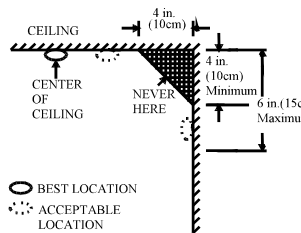

Figure 4: RECOMMENDED BEST AND ACCEPTABLE LOCATIONS TO MOUNT SMOKE
- Install smoke detectors as close to the center of the ceiling as possible. If this is not practical, put the detector on the ceiling, no closer than 4 inches (10 cm) from any wall or corner, as shown in Figure 4.
- If ceiling mounting is not possible and wall mounting is permitted by your local and state codes, put wall-mounted detectors between 4 and 6 inches (10 ~ 15 cm) from the ceiling, also see Figure 4.
- Dead air spaces are often at the top of a peaked roof, or in the corners between ceilings and walls. Dead air may prevent smoke from reaching a detector. See Figures 4 and 5 for recommended mounting locations.